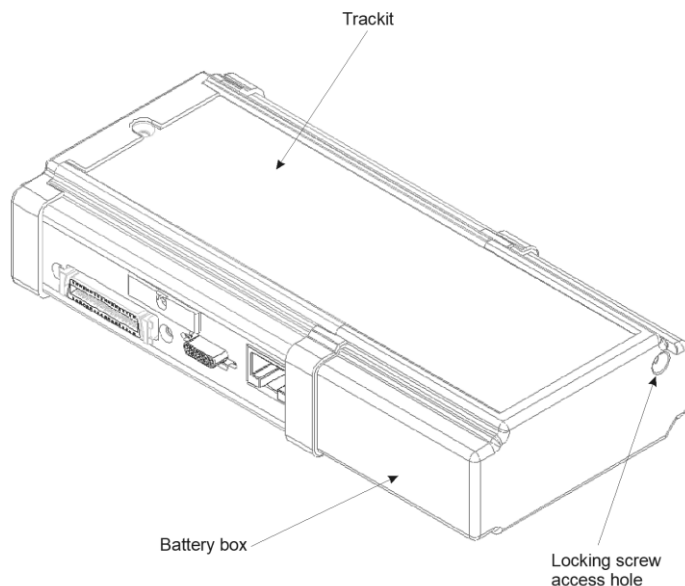

Figure 23 Opening the rear battery box/door
- 1 Open the Trackit Mk3 rear Battery box/door with the special tool provided. See Figure 23. The unit's warning beeper will sound for a few seconds and the Door Open symbol on the display will flash.